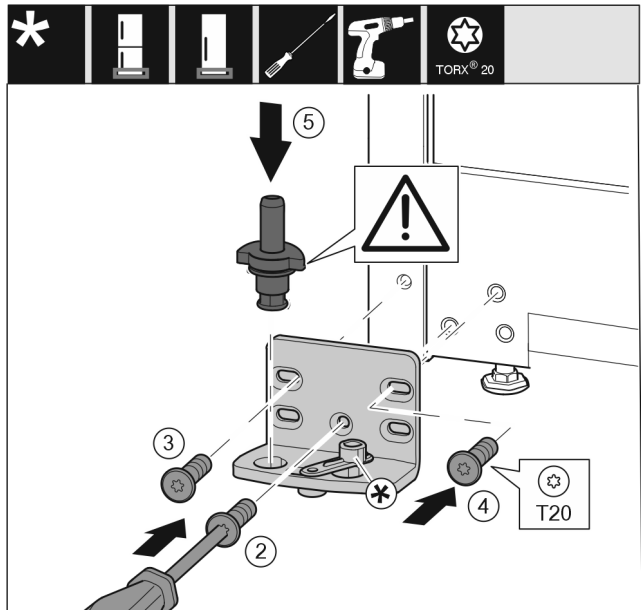

Fig. 29
- Place the swap bearing block on the other side and use a screwdriver to screw it on. Start with the screw Fig. 29 (2) at the bottom in the middle.
- Tighten screw Fig. 29 (3) and screw Fig. 29 (4).
- Insert the bearing bolt Fig. 29 (5) completely. Ensure that the latching cam is pointing towards the rear.